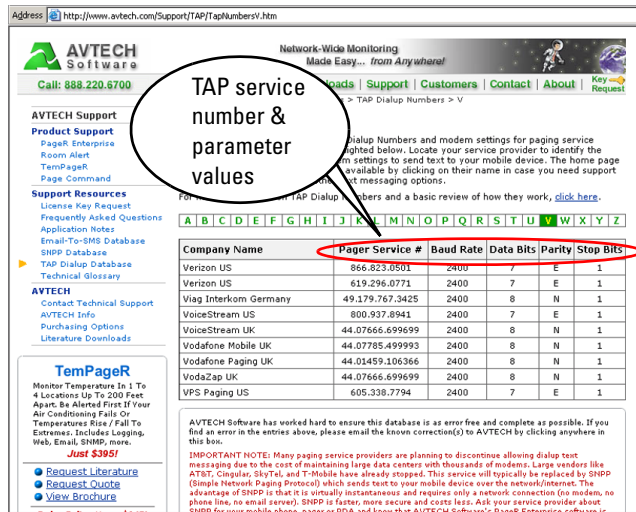

Figure 3-5 TAP Service Parameters
- On the next screen, locate your service provider's name in the left column and in Flowlink program the correct pager service number (Phone Number) and parameters (Comm: 7E1 or 8N1) under "Phone number list". (See Figure 3-5.)